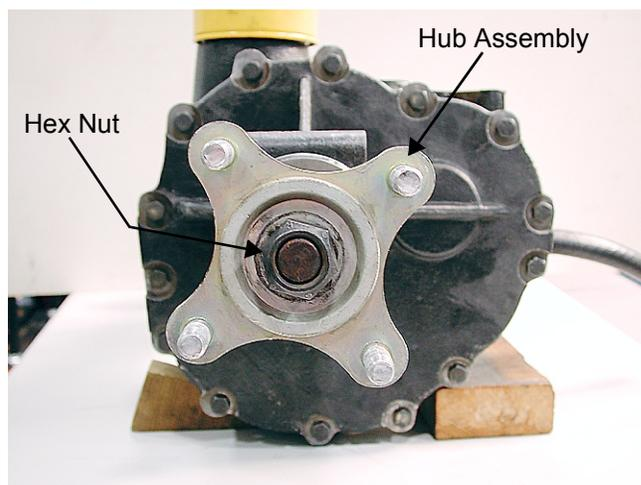

Figure 12
- 14.1. Remove both large hex lock nuts securing the hub assemblies to the axles using a 1-1/8 in. socket. See Figure 12.